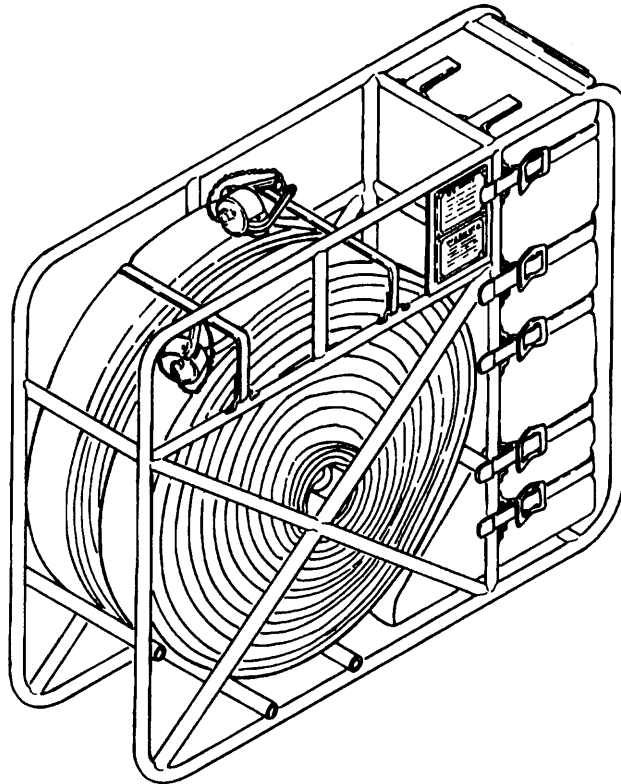

Figure 1-14. Discharge Hose Assemblies.
**1-19. DISCHARGE HOSE ASSEMBLIES.** (Refer to Figure 1-14.)